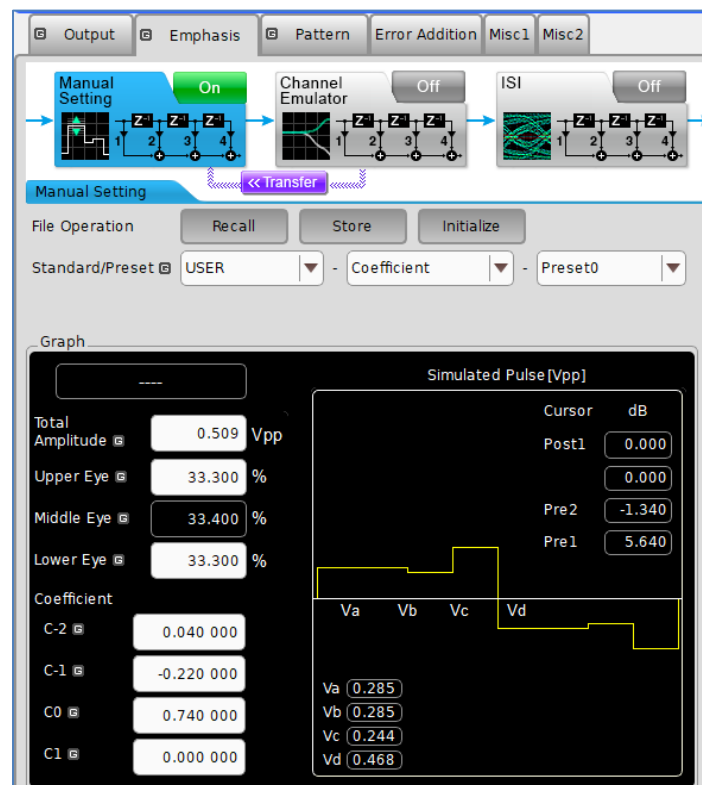

FIGURE 105. MU196020A (SLOT 1, VICTIM) EMPHASIS SETTINGS
- For the “Coefficient” settings, set the “C-2”, “C-1”, “C0” and “C1” values according to the COM calculation results for the “**TXLE_taps**” [C-3 C-2 C-1 C0 C1] information. Figure 105 below shows an example of the coefficient settings for TXLE_taps [0 0.04 -0.22 0.74 0].